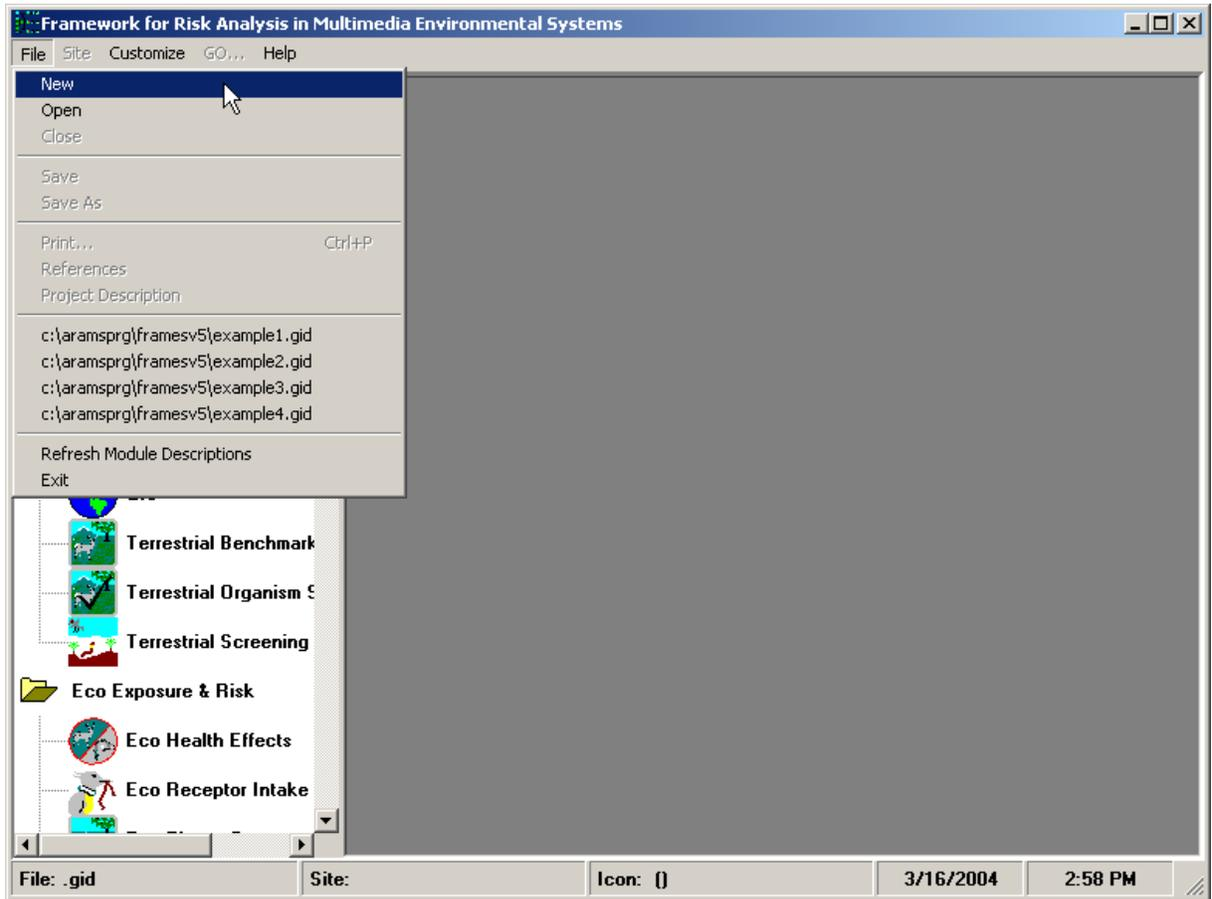

Figure 2. Opening a new file
- While ARAMS/FRAMES is running, click “File” and choose “New” and a window titled “Global Input Data Open New” will appear (see Figure 2). In the “File Name” box, type the project name (e.g., “Ex5,” maximum of eight characters) and click “Open” (see Figure 3). **Do not**